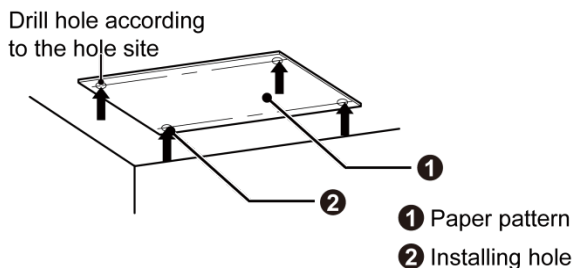
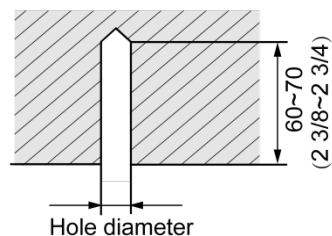

Fig.4.1.2
Fig.4.1.3
- 1) Stick the paper pattern on the installation position; drill 4 holes according to the hole site on the cardboard as shown in Fig.4.1.2; diameter of drilling hole is according to the diameter of expansion bolt and the depth is 60~70 (2 3/8~2 3/4) mm, as shown in Fig.4.1.3.